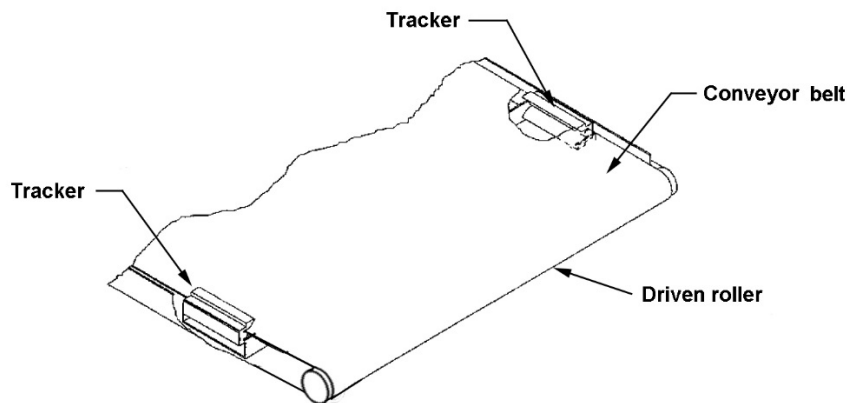

Figure 22 – Underside of conveyor shown
6. The tracker is positioned on underside of conveyor bed near driven roller (Figure 22). The back of tracker is magnetized and will stick to side wall of conveyor bed. Do not install tracker if edge of conveyor belt is damaged or torn.